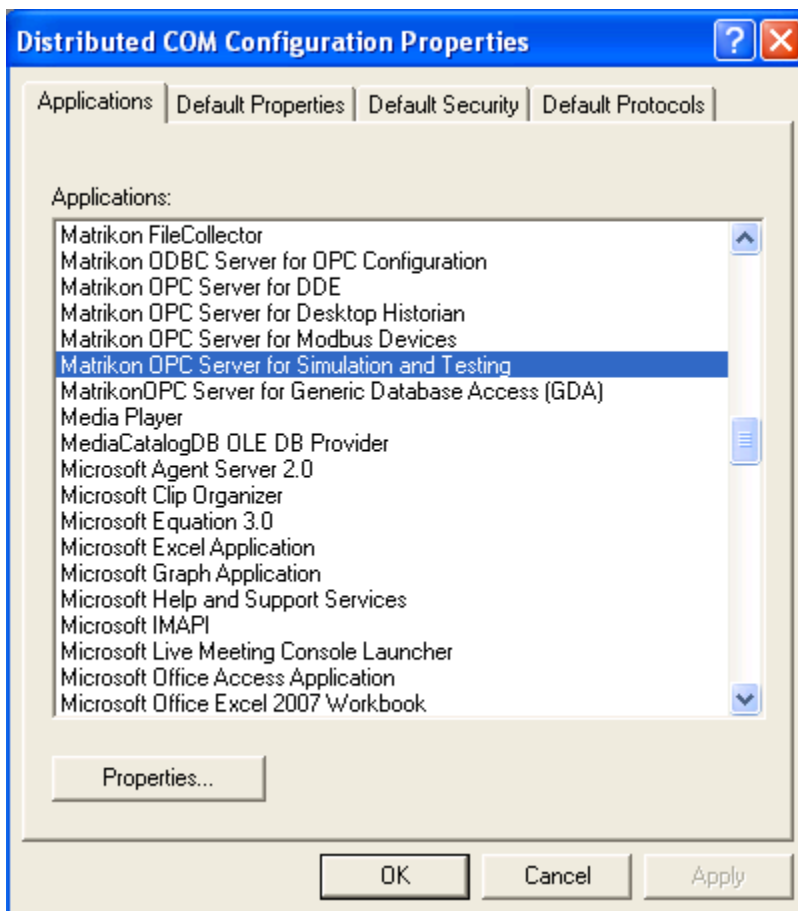

Figure 39 - Distributed COM Configuration Properties Window
3. The **Distributed COM Configuration Properties** window (Figure 39) appears.